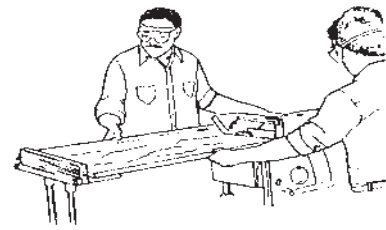

Figure C-10
9. Feed the stock as you would normally. If the stock you're cutting is extremely large — such as a sheet of plywood — get some help. See Figure C-10.